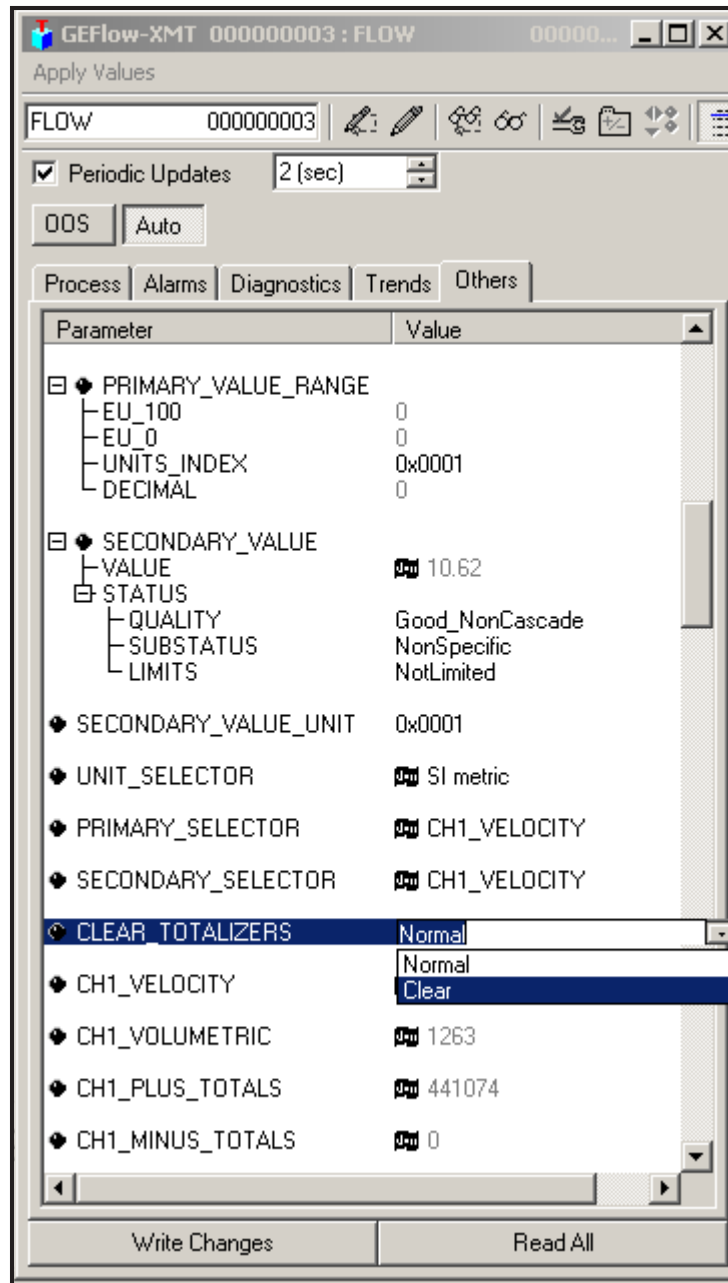

Figure 43: Clear Totalizers Drop Down List
3. Select **Clear** from the drop down list box (see Figure 43).